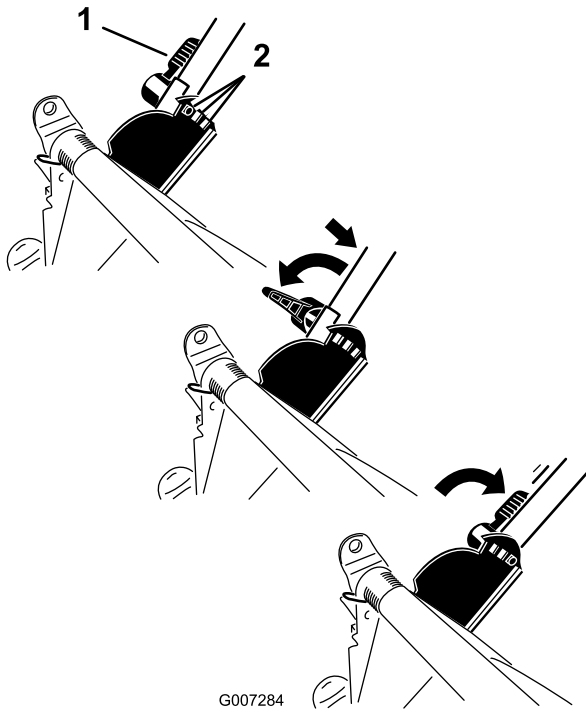

**Figure 11**
**Note:** To raise the mower, move all 4 cutting height levers forward; to lower the mower, move them all rearward (Figure 11).